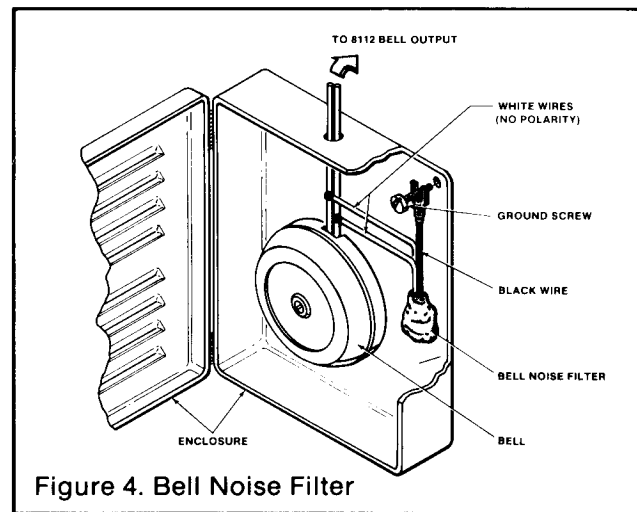

Figure 4. Bell Noise Filter
- 6.2 **Bell Noise Filter** - An Omegalarm D8123 Bell Noise Filter must be installed when connecting impulse bells (motor or solenoid types) to a D8112 alarm power output terminal. The bell noise filter suppresses noise impulses on the wiring before this noise can return to the panel. The bell noise filter is installed at each bell, NOT at the panel. See Figure 4 for installation.